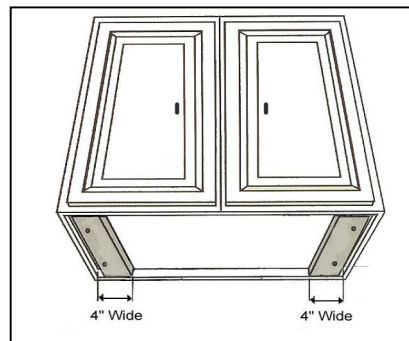

Figure 2
- For installing under the cabinets with recessed bottom, attach 4-inch wide wood filler strips (not included) on each side. Refer to Figure 2.